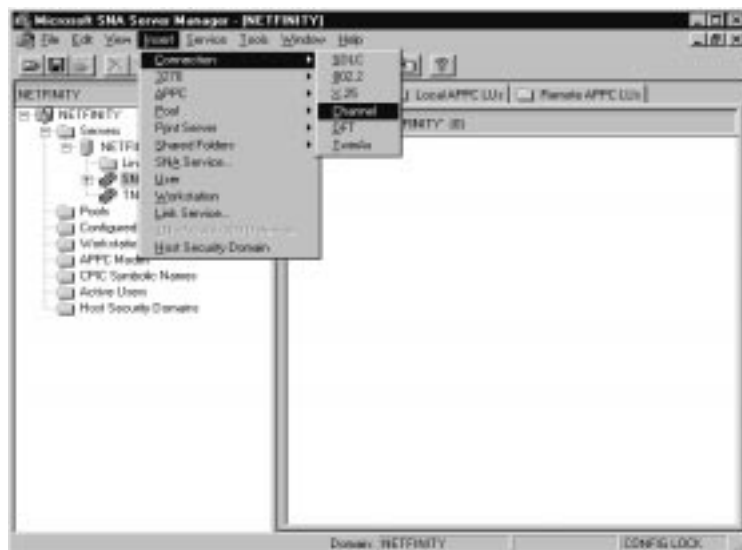

Figure 8-24. Inserting a New ESCON Connection
2. Using your mouse, menu select **I**nsert, **C**onnection, and **C**hannel as shown in Figure 8-24).